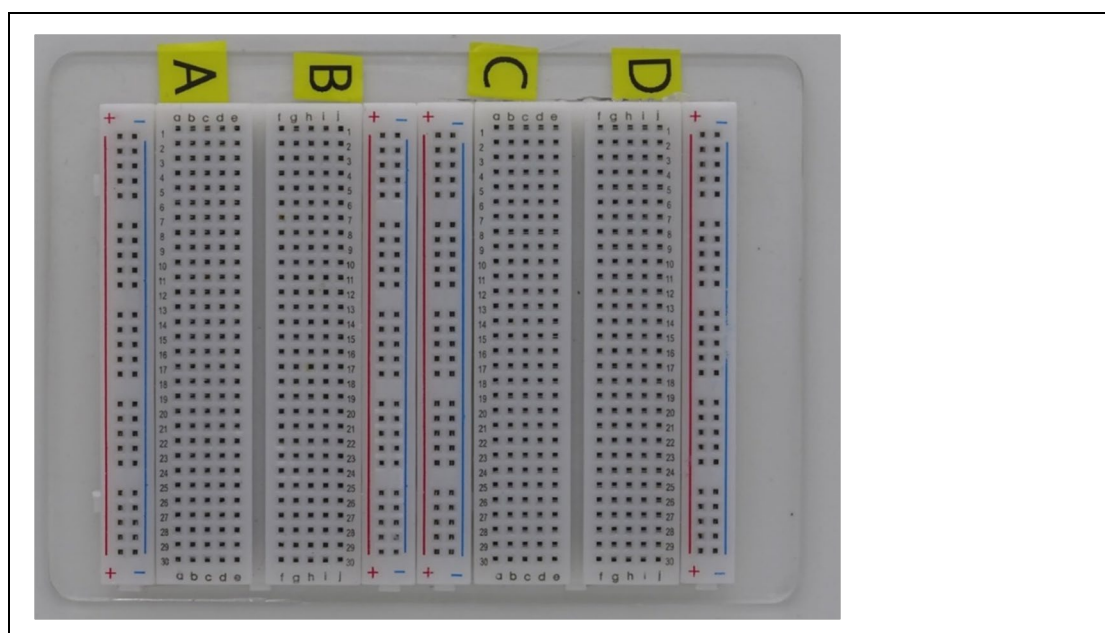
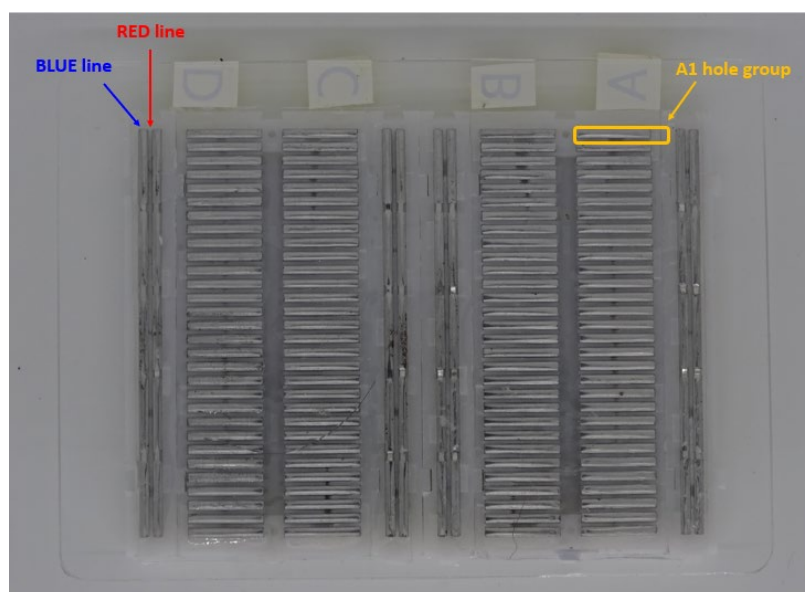

Figure-1.1 Breadboard top view
Figure-1.2 Breadboard bottom view
Breadboard is a common and low-cost platform for electronic circuit evaluation. You have to get acquainted with the arrangement. In the experiment kit, you can get a piece of breadboard that is mounted on an acrylic board, with three modules pre-inserted onto it. There are a lot of holes on the breadboard, we have separated them into five regions A, B, C, D and red & blue lines (Figure-1.1).
The holes 'a' to 'e' (vertical/column) are intrinsically connected in each row for rows from 1 to 30). Similar arrangement applies to holes 'f' to 'j'. Holes next to the same RED /Blue lines are intrinsically connected vertically. If you turn over the breadboard (Figure-1.2), you can find a lot of **metal strips** connecting the holes in groups.
1. Compare the top view (Figure-1.1) and the bottom view (Figure-1.2) to understand the arrangement of the breadboard.